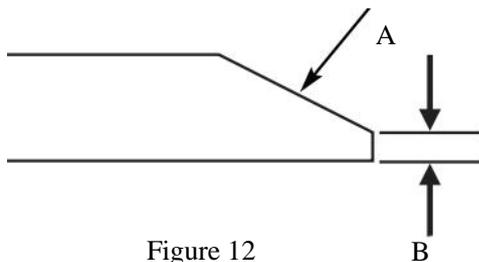

Figure 12
6.10.4 The mower blade should have a maximum 1/64" (0.40mm) cutting edge (B, Figure 12) or less.
backward the removal procedure. Be sure fiberwashers are installed as shown (Refer to Figure 12).
6.12.1 Reinstall each mower blade with the lift of blade pointing upwards the mower deck as shown in Figure 12. Secure with the mower blade mounting bolt and flat washer (B&C Figure 12) and torque to 70 ft. lbs (94 N.m).